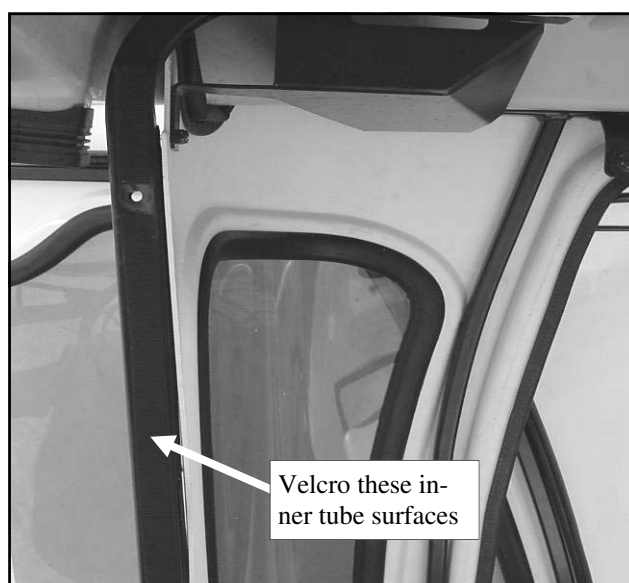

Fig. 4.2 (view from right side)
4.2 Per fig. 4.2, install PSA hook Velcro to the inner surfaces of the rear tubes as shown. Stop and re-start on both sides of the holes.